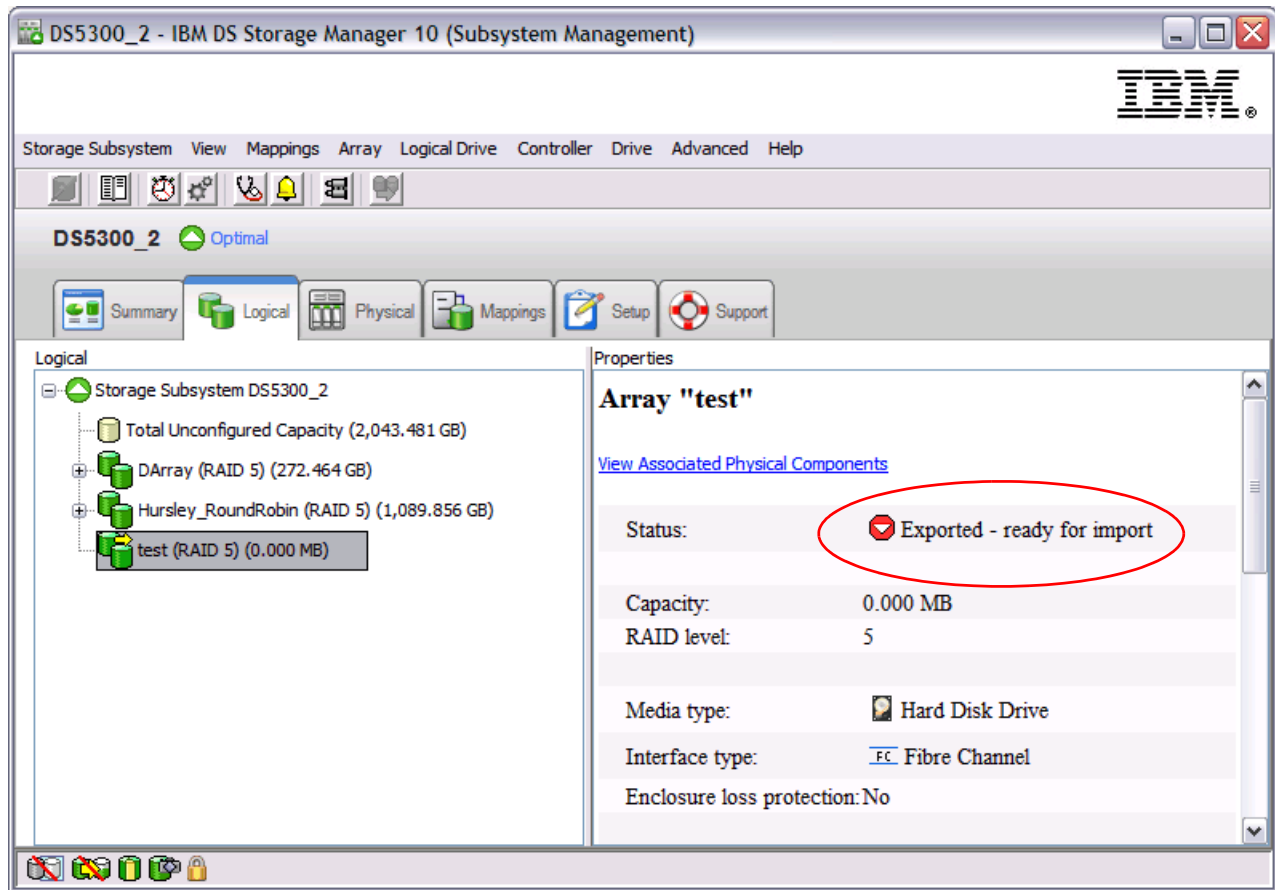

Figure 5-48 Array exported - ready for import
- Before you start removing the disks, check the Storage Manager window to make sure that array status is **Exported ready for import** as shown on all Figure 5-48.